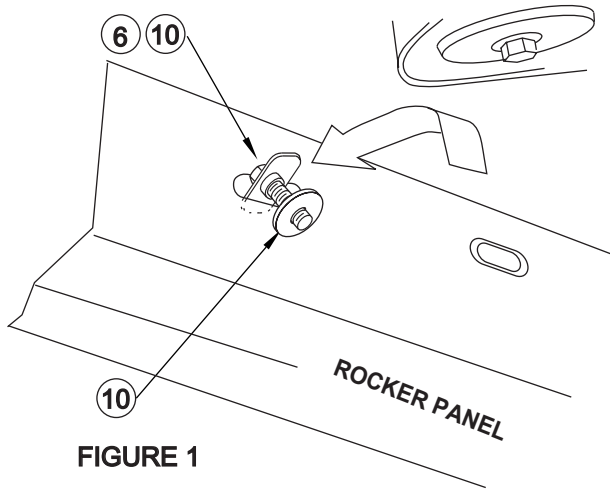

FIGURE 1
- STEP 4. Attach plastic washer to bolt plate. Insert bolt plate as shown. **SEE FIGURE 1.**